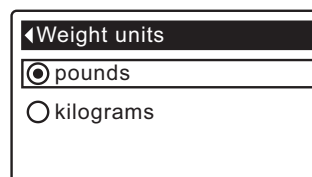

FIG. 54
5. Press the SELECT (O) button to display the Weight units menu (See Figure 54).
6. If the desired weight unit already has a black dot next to it (See Figure 54), go to Step 7. Otherwise, press the DOWN (▼) or UP (▲) buttons to scroll to the other weight unit, then press SELECT (O) to choose it.
7. Press the SELECT (O) button. The display will go back to the User preferences menu.